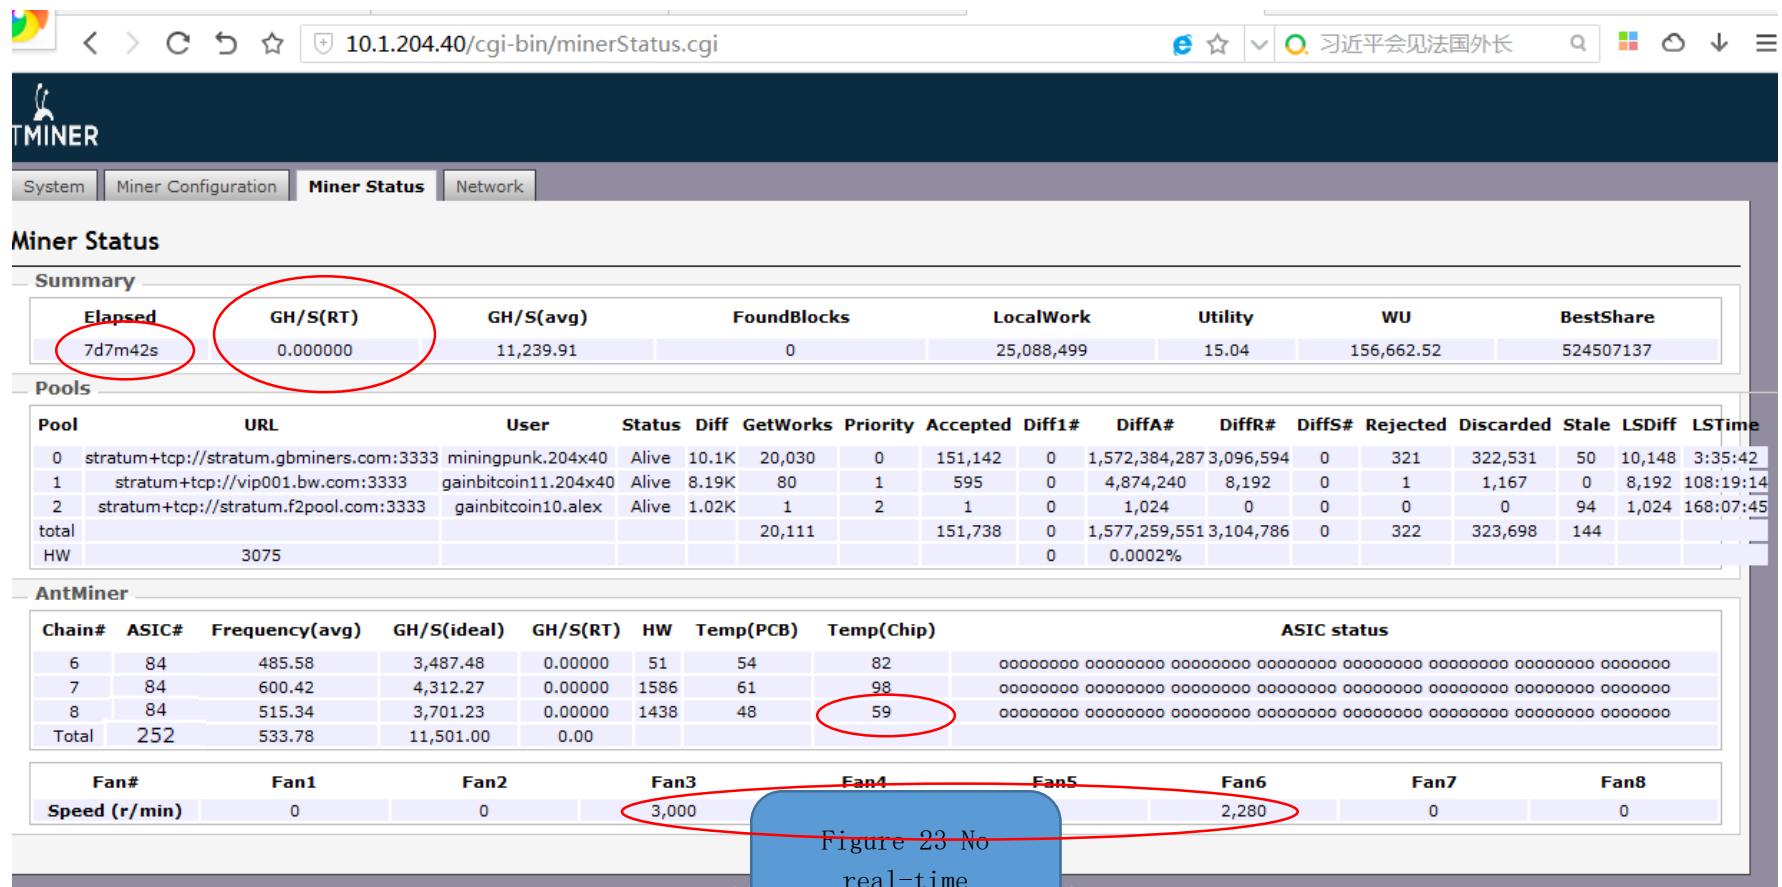

Figure 23 No real-time hashrate
1.2 No GH/S (RT) hashrate, red light flashes. As shown in Figure 23 below: